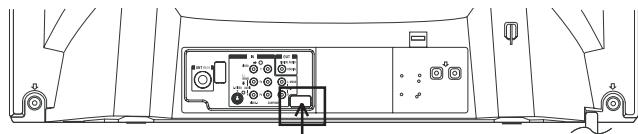

Fig. 1
2. Using the Serial Communication Change JIG (**JG198**), connect the set to personal computer. (Refer to Fig. 1)